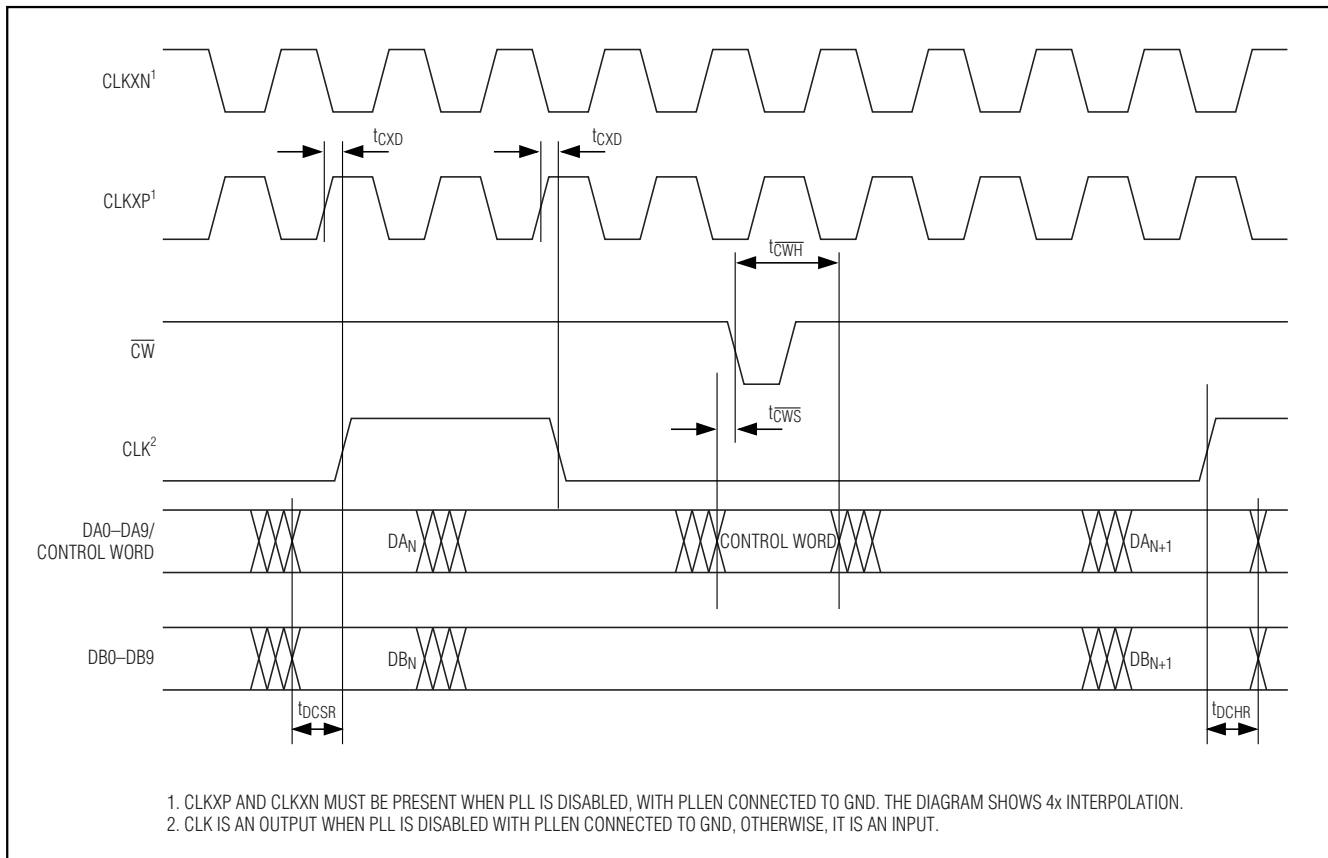

Figure 6. Timing Diagram for Noninterleave Data Mode (IDE = Low)
Figure 6 depicts the write cycle of the MAX5858A in 4x interpolation mode. With the interpolation feature enabled, the device can operate with the PLL enabled or disabled.
If the PLL is enabled (PLEN = 1), CLK becomes an input and the clock signal is applied to CLK. In Figure 6, the CLK signal is multiplied by a factor of four by the PLL and distributed to the interpolation filters and DAC cores. In this mode, CLKXP must be pulled low and CLKXN pulled high.
Figure 6 shows the timing for the control word write pulse (CW). An 8-bit control word routed through channel A's data port programs the gain matching, interpolator configuration, and operational mode of the MAX5858A. The control word is latched on the falling edge of \overline{CW} . The \overline{CW} signal is asynchronous with conversion clocks CLK and CLKXN/CLKXP; therefore, the conversion clock (CLK or CLKXN/CLKXP) can run uninterrupted when a control word is written to the device.